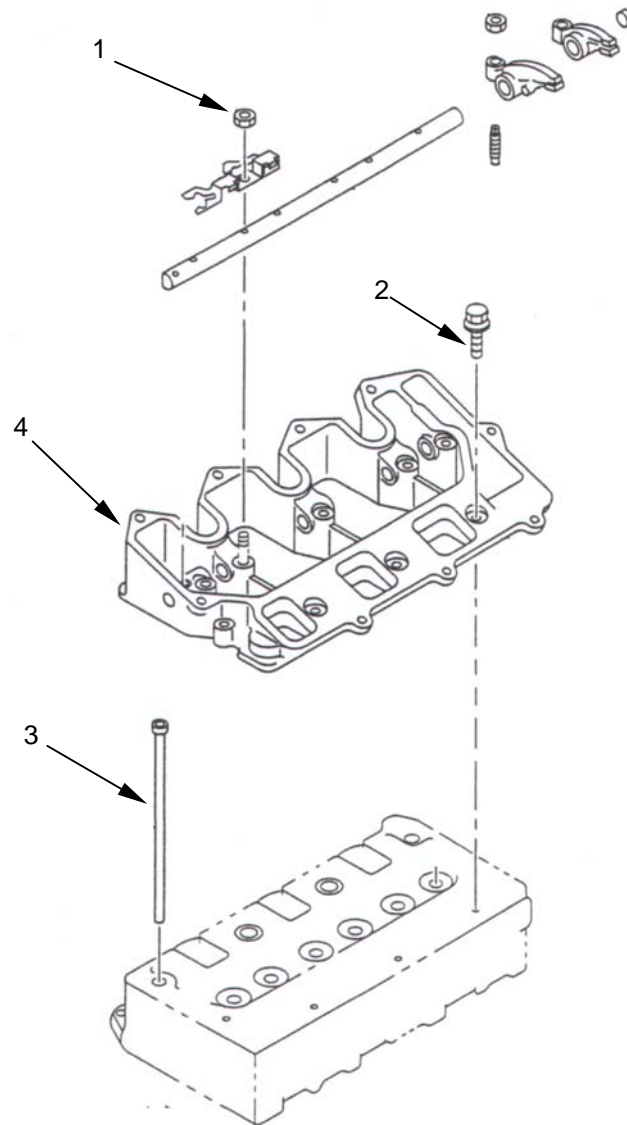

Figure 7. Rocker Arm Bracket
- a. Loosen and remove mounting nuts (**figure 7, item 1**) (qty 5).
- b. Loosen and remove mounting bolts (**figure 7, item 2**) (qty 4).
- c. Pull out the push rods (**figure 7, item 3**) (qty 6).
- d. Remove rocker arm bracket (**figure 7, item 4**) from cylinder head assembly.